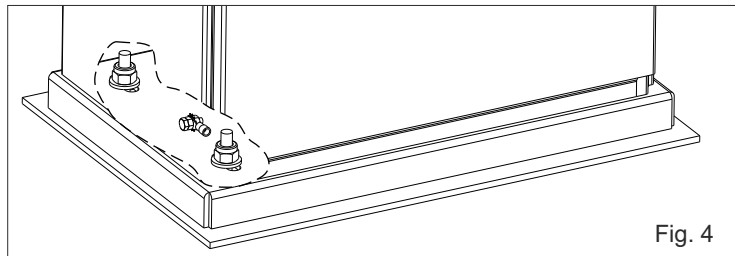

Fig. 4
4.1. Fix the motor-reducer to the foundation plate adjusting the side position (Fig. 4) considering the mentioned measurements in Fig. 2.